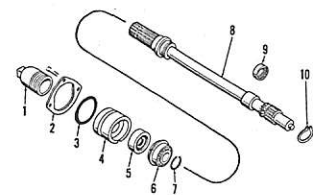

Fig. 256—IPTO output shaft showing component parts.
232. OUTPUT SHAFT. To remove the IPTO output shaft, first drain transmission & hydraulic system fluid then unbolt retainer plate (2—Fig. 256) from rear axle center housing. Remove protective cap (1). Insert a punch or similar tool in hole in hole in shaft (8) and withdraw shaft, bearing, retainer and associated parts.
235. OUTPUT SHAFT. With output shaft removed from tractor as outlined in paragraph 232, seal retainer (4—Fig. 256) can be withdrawn toward rear. Seal (5) bottoms against shoulder in retainer bore and is installed with lip to front.